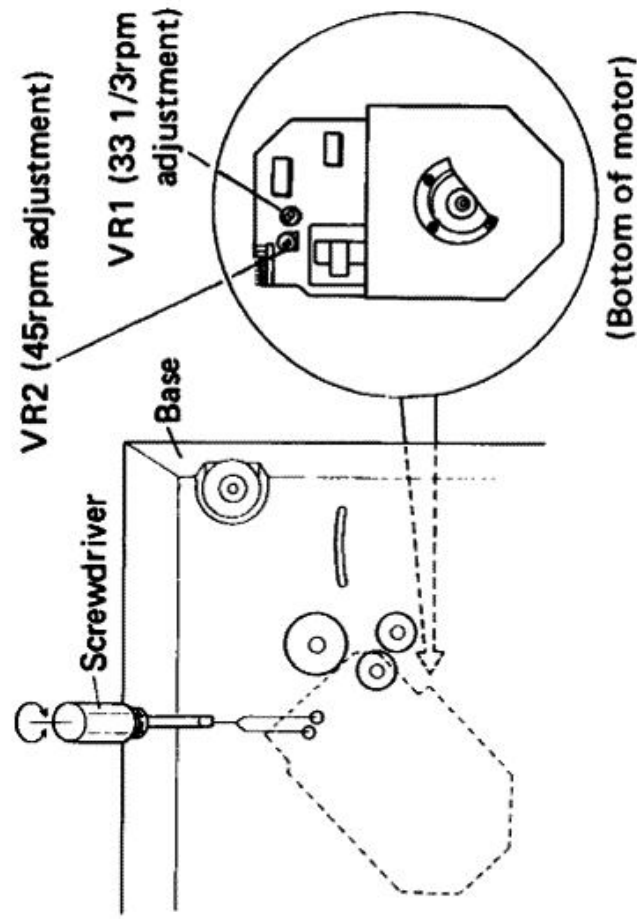

Fig. 12-4 Motor adjustment
3. Adjust the semi-fixed resistor on the circuit board assembly so that the strobo stops. (Fig. 12-4)